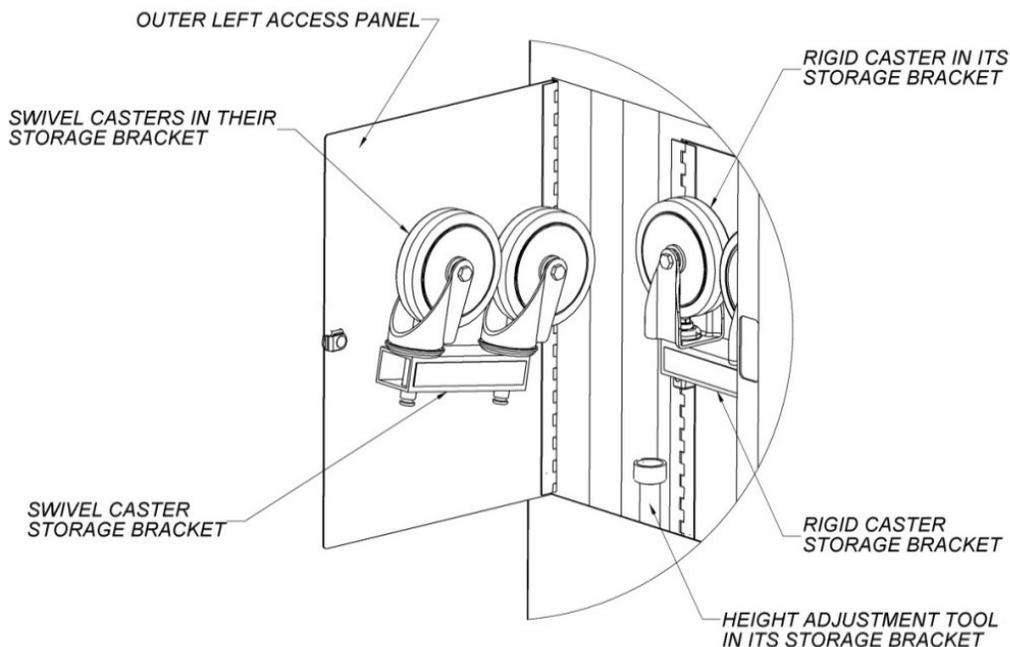

Figure 2
3. Remove all four casters from the platform underside by pulling them straight down. Place them in the caster storage brackets in the left-hand machinery cabinet according to their color codes. See Figure 2. **The casters must be removed before the lift can be operated.**
6. Open the inner access panel on the left-hand machinery cabinet and remove the height adjustment tool from its storage bracket. Refer to Figure 2 for identification of the adjustment tool.